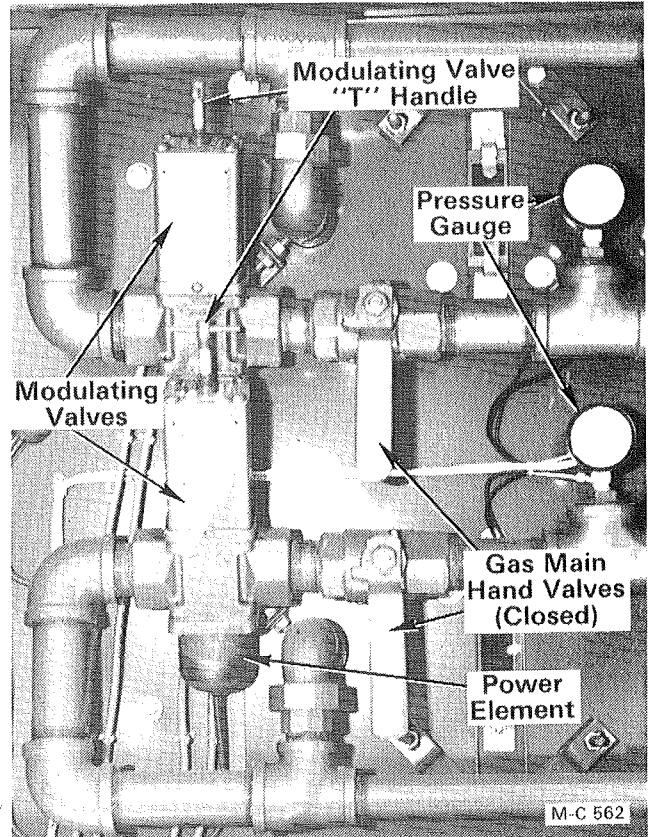

Figure 6 - Two Burner Cabinet
3. Close the gas main hand valve for each burner (handle 90° to the piping), see Figure 6.
4. Check the modulating valve in each burner gas manifold to be sure the "T" handle has not been turned all the way in to the wide open position, see Figure 6. The "T" handle should be halfway between the closed and fully open position.